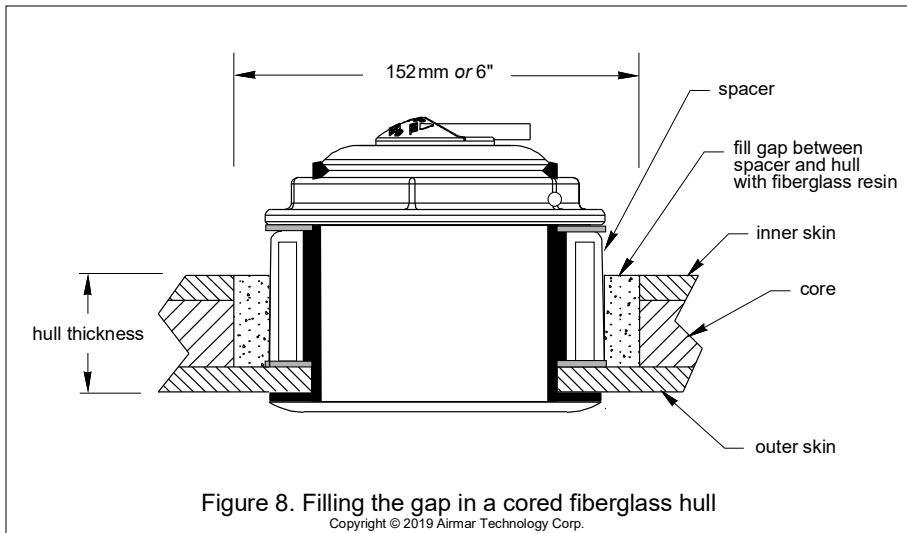

Figure 8. Filling the gap in a cored fiberglass hull
1. From inside the hull, using the 152mm or 6" hull interior hole saw, cut through the *inner* skin and most of the core (Figure 8). The core material can be very soft. Apply only light pressure to the hole saw after cutting through the *inner* skin to avoid accidentally cutting the *outer* skin.
Fill the gap between the spacer and the hull with fiberglass resin (Figure 8).